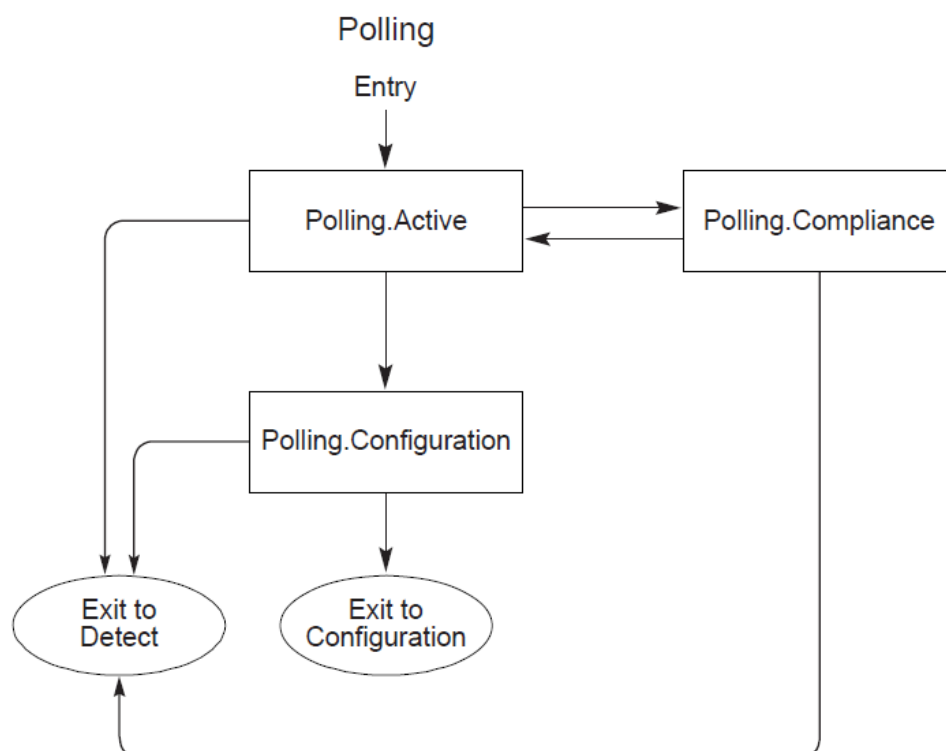

Figure 2. Polling Sub-State Machine
1. Start sending TS1 with PAD (K23.7) which takes the product into the Polling.Active state (Figure 2).